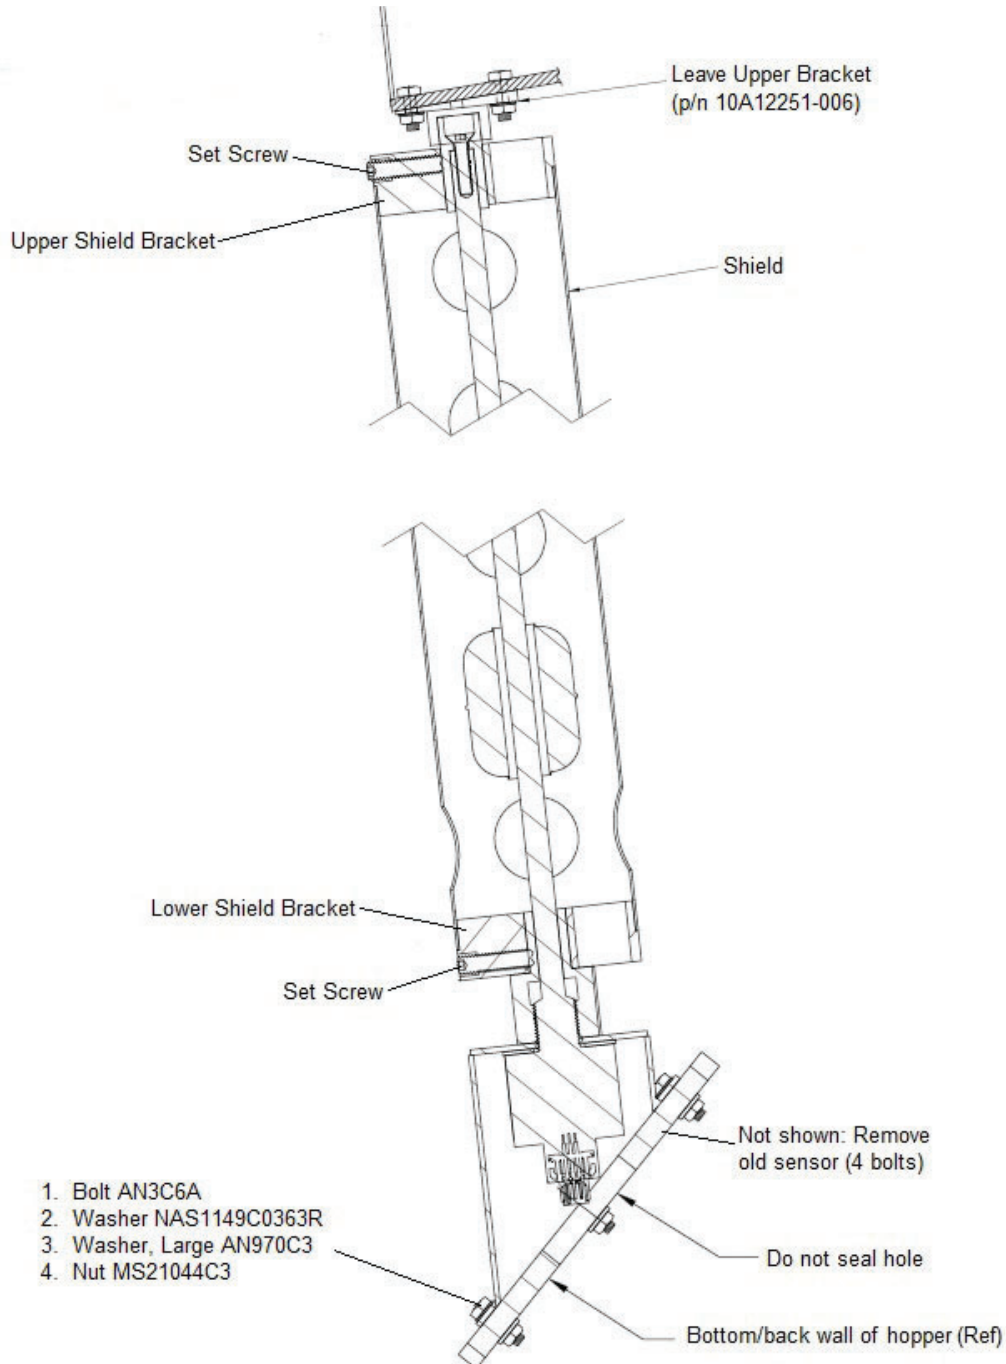

Figure 3
- a. Leave in the upper bracket (10A12251-006) bolted to the top of the hopper. Reference Figure 3.
- b. Remove and discard the 4 bolts mounting the probe to the back wall of the hopper. Reference Figure 3.